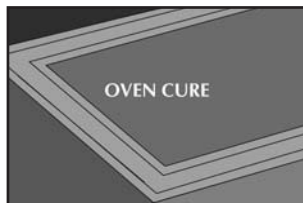

Figure 3.
2. BAKE. Recommended baking schedule for optimum performance of Teckmask Tape is 5 to 60 minutes at 225° to 350°F (Figure 3).